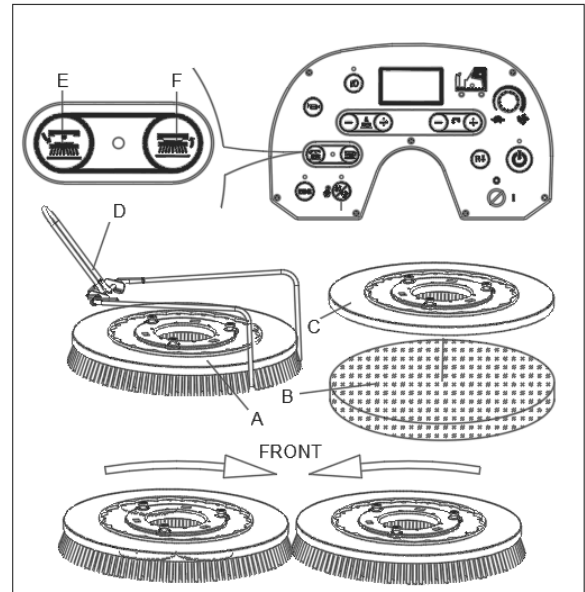

Figure 8
Install either the brush (A, Figure 8) or pad-holder (B and C, Figure 8) according to the type of floor to be cleaned.
2. Place brushes (A, Figure 8) or pad-holders (B, Figure8) under the deck. Use the brush installation stop (D, Figure8) to help find the proper brush/pad holder position.
3. Install the brush/pad-holder by pressing the Brush/pad-holder click on button (F, Figure 8), the brush/pad-holder will be automatically installed. The rotation direction is shown (Figure 8). The LED indicator light will flash.
1. Insert the Ignition key (53, Figure 3) and turn it to "I". Ensure the brush/pad-holder is in the raised (UP) position. Remove the brush/pad-holder by pressing the brush/pad-holder release button (E, Figure 8), the brush/pad-holder will be automatically released. The LED indicator light will be steady on.